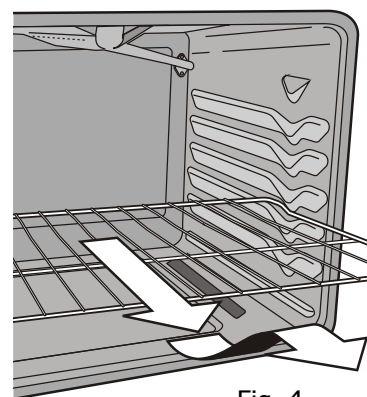

Fig. 4
**To remove-** Pull the oven rack straight out until it reaches the stop position. Tilt up front of oven rack to slide past the stop position and pull the rack out of the oven cavity (Fig. 4).
5. While holding the connector arm in place, twist the connector arm so the ends of the connector arm point **upwards** (See Figs. 4 & 5). The connector arm should now be locked into position.